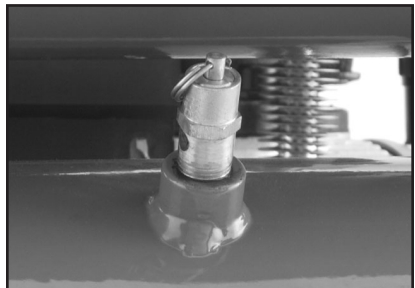

Figure 8. Safety drain valve.
1. Locate the safety drain valve on the tank. The drain valve is shown below in **Figure 8**.